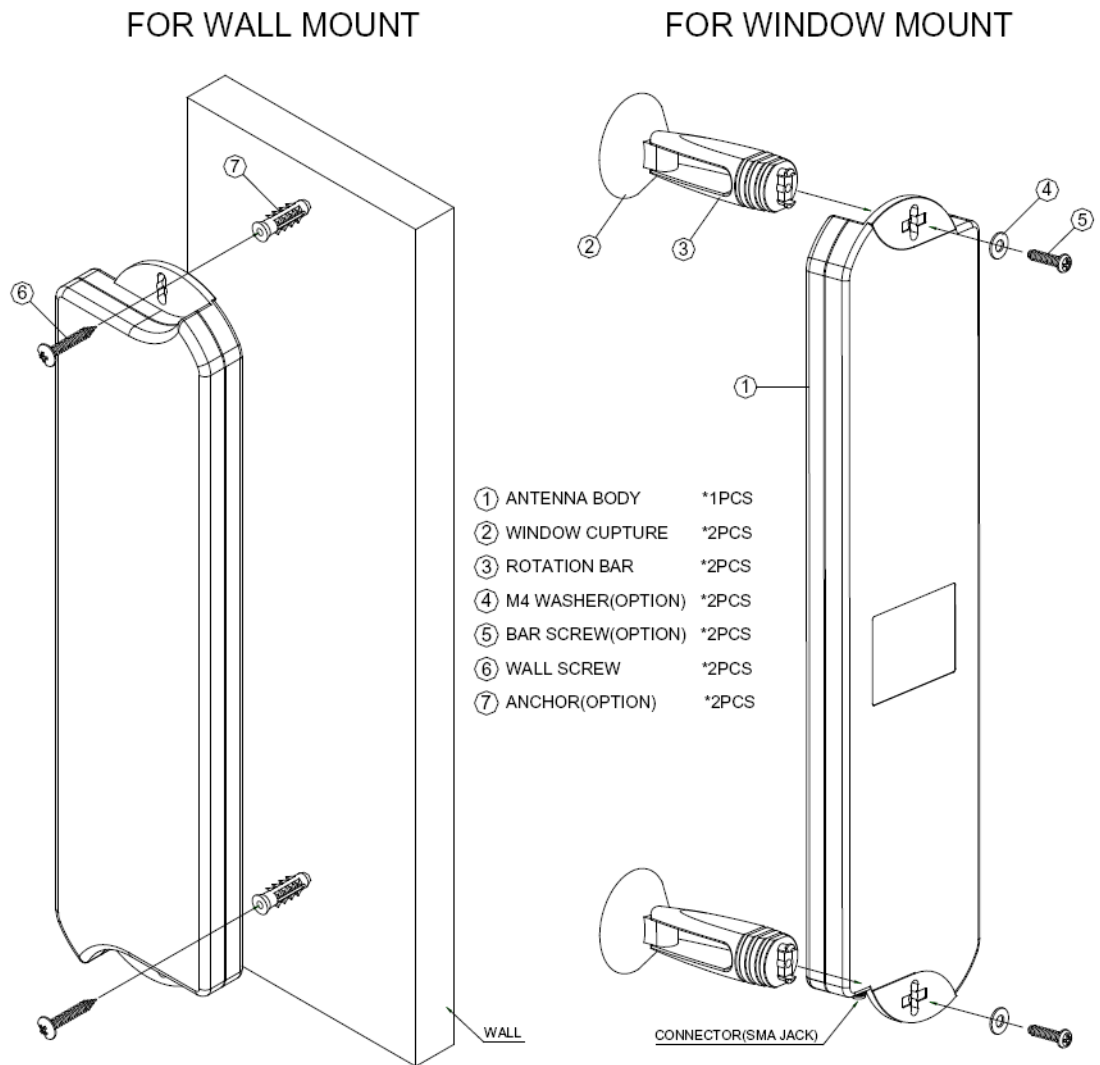

Figure 2-19: Wall/Window Mounting the 2.3/2.5 GHz Detached Antenna
- 2 Fasten the antenna to the wall. Refer to Figure 2-19 for directions. Use the two #8 screws provided with the kit. Do not over tighten.
- 1 Attach the rotation bars to the antenna and the suction cups to the rotation bars. Refer to Figure 2-19 for directions.